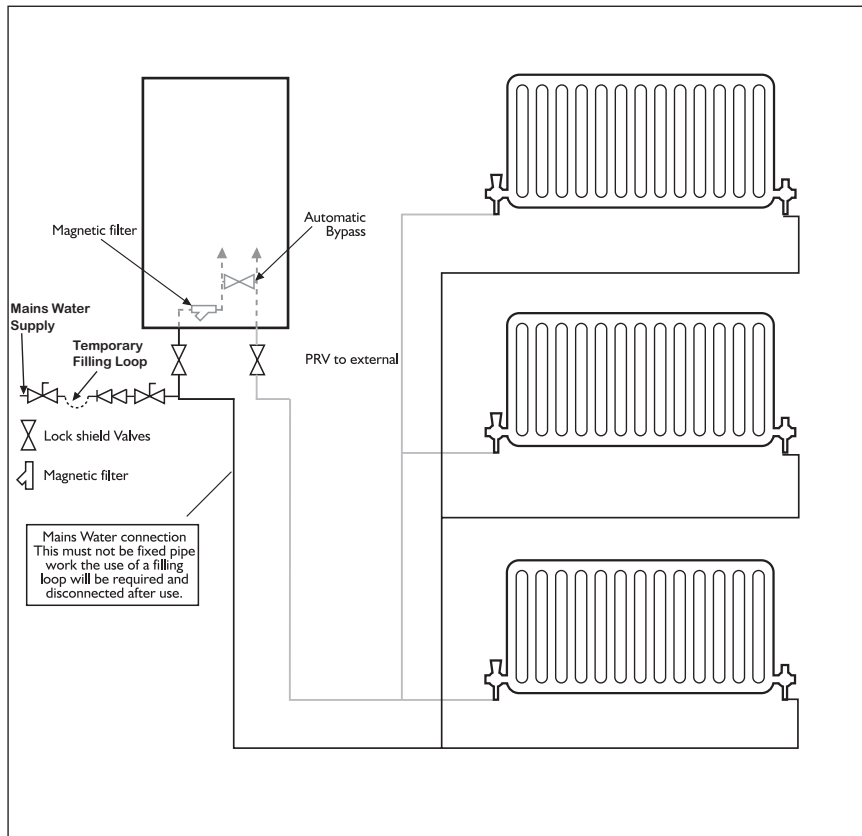

Figure 4
2. Connect the boiler to a heating system that is equipped with isolation valves (see Figures 4 & 5).
3. Fill the heating system with treated water, which will substantially extend the life of the heating coils. See item 14 „System Protection” below.